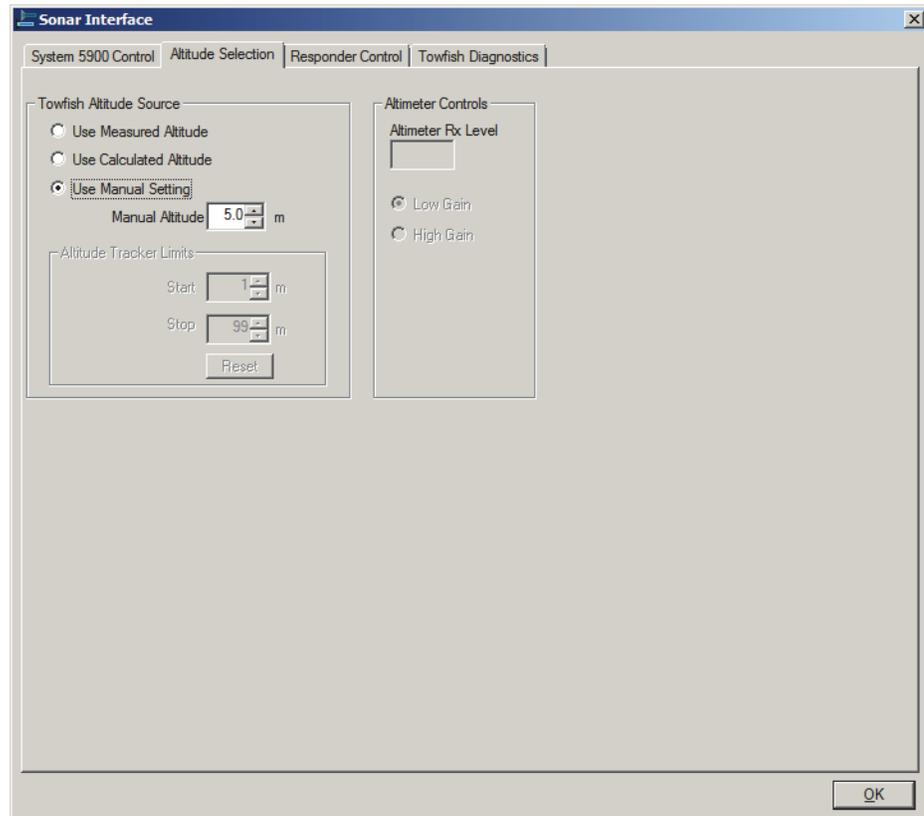

Figure 81: *The Sonar Interface Dialog Box, Series 5900 Sonar System—Altitude Selection Tab with the Use Manual Setting Option Selected*
- Select **Use Manual Setting** to enter an estimated altitude for the towfish. When this option is selected, the **Manual Altitude** scroll box appears on the *Altitude Selection* tab as shown in Figure 81. In this scroll box enter the estimated altitude, which will remain fixed.